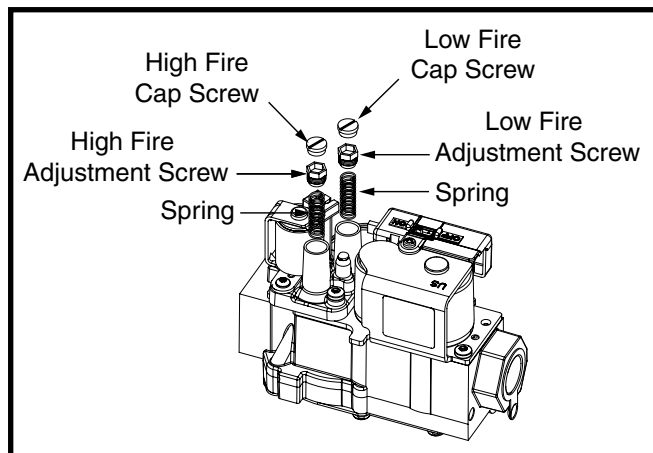

Figure 2. Gas Valve Conversion
8. Remove the HIGH fire cap screw. See Figure 2.
2. Using a 3/16" Allen wrench, remove the plug from the inlet pressure tap (INLET side of gas valve). See Figure 2.
1. Using the supplied Torx-25 Wrench, slowly turn the adjustment screw till the appropriate manifold pressure listed in Table 2 is achieved. See Figure 2.